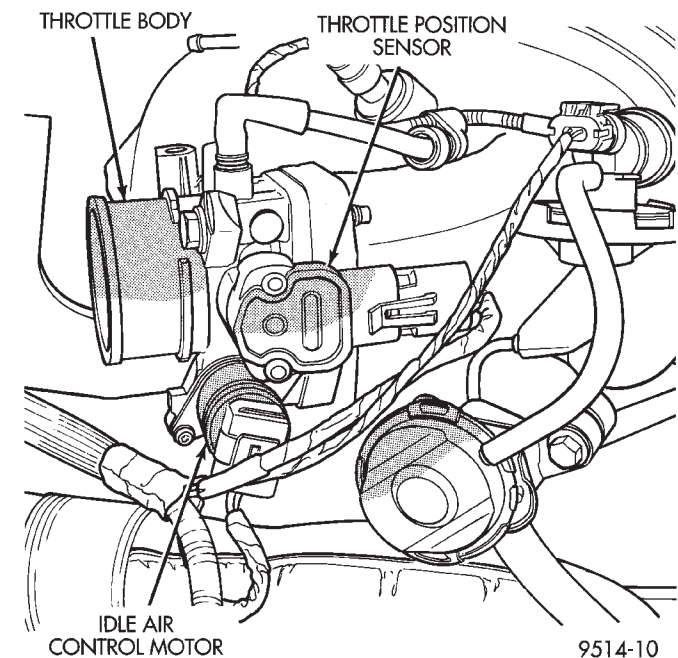

Fig. 33 Electrical and Vacuum Connection to Throttle Body
(5) Tighten the engine cylinder head bolts in sequence according to the following procedure (Fig. 33):
(6) Loosen assembly oil feed line for rocker arm assemblies
(7) Install the intake and exhaust manifolds with new gaskets, partially tightening the nuts to a maximum of 5 N·m (44 in. lbs.). This will align the heads (refer to Group 11, Exhaust System and Intake Manifold for the proper procedures). Install lift eye and brake vacuum tube at this time.
(8) Then, tighten the 12mm bolts with special tool VM-1019 in the following manner:
(9) **1st Phase: Tightening Head Bolts** (Fig. 33). Central bolts (A-L): Tighten all bolts, starting with bolt A then B-C-D-E-F-G-H-I-L, to 30 N·m. Repeat the operation with the same torque. Following the same sequence rotate each bolt through an angle of
- (4) Remove air inlet resonator to throttle body hose assembly.
- (5) Remove throttle cable. Refer to Group 14 Fuel Systems for procedure. Remove wiring harness from throttle cable bracket.
- (6) Remove automatic idle speed (AIS) motor and throttle position sensor (TPS) wiring connectors from throttle body (Fig. 33).
- (7) Remove EGR transducer connector.
- (8) Remove vacuum hose harness from throttle body (Fig. 33).
- (9) Remove PCV and brake booster hoses from air intake plenum.
(10) Remove connector from MAP sensor (Fig. 33).